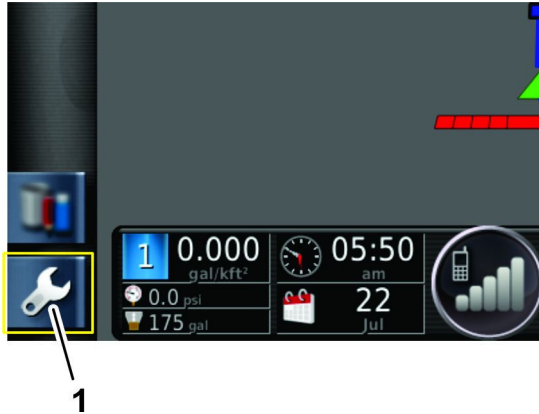

Figure 19
1. Press the SETUP icon on the main screen (Figure 19).